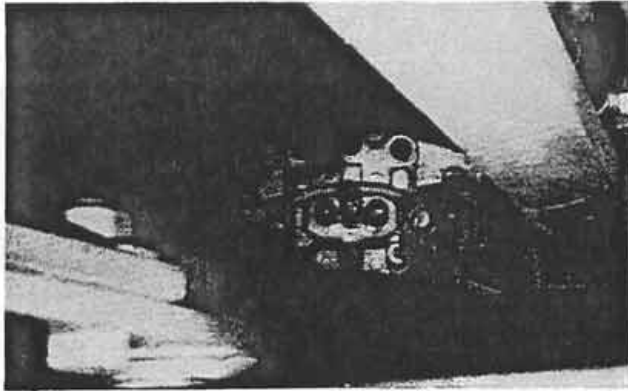
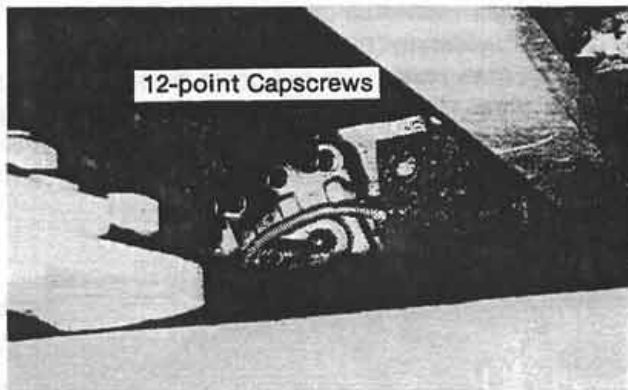

Figure 5:
Figure 6:
5. Remove the caliper assembly from the brake mount weldment (Fig. 5). In some cases clearance is limited so the caliper assembly cannot be removed intact. When this is encountered, remove the three 12-point capscrews (Fig. 6) which fasten the caliper castings together, and remove the castings individually.